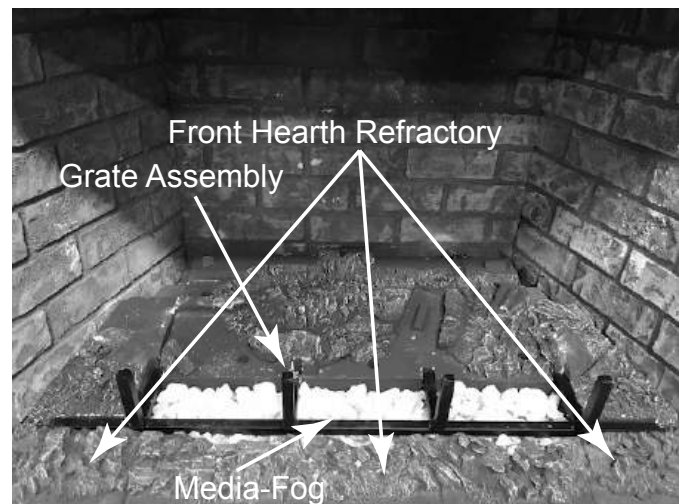

Figure 11.13
- Set Left, Right & Middle Front Hearth Refractories between the front edge of the burner and the front edge of the Phoenix appliance. Install Grate Assembly and fill ember area with TECO SIL media as shown. See Figure 11.13.